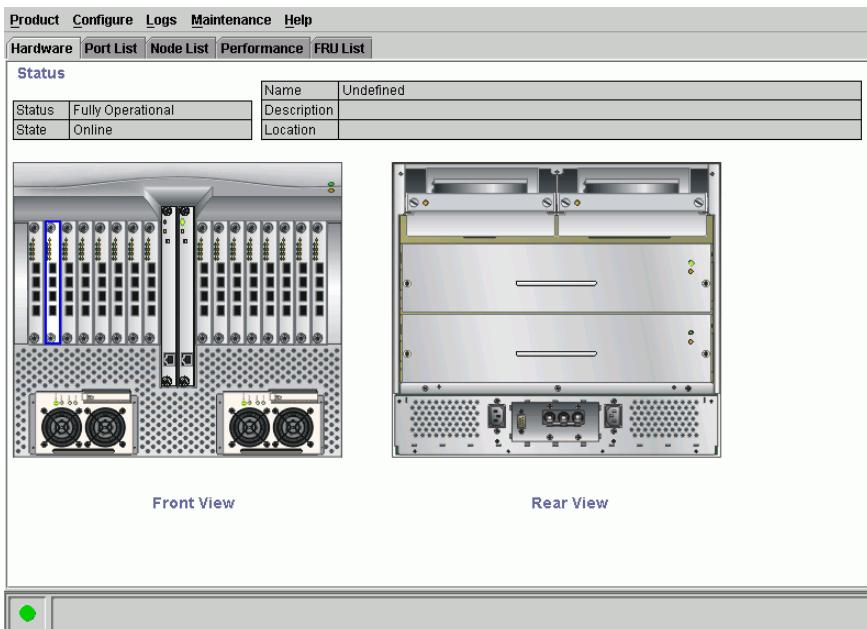

Figure 40 Hardware View page
- Check director status at the Hardware View page (Figure 40), and complete one of the following steps: